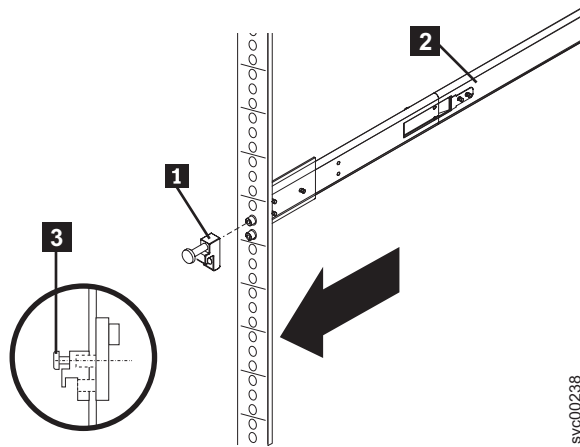

Figure 29. Attaching the latch strike to the front of the rail
5. Attach one latch strike **1** to the front of the right rail **2**, as shown in Figure 29, using the captive screw **3**. The screw should be only finger tight. Attach the other latch strike to the front of the left rail in the same way.